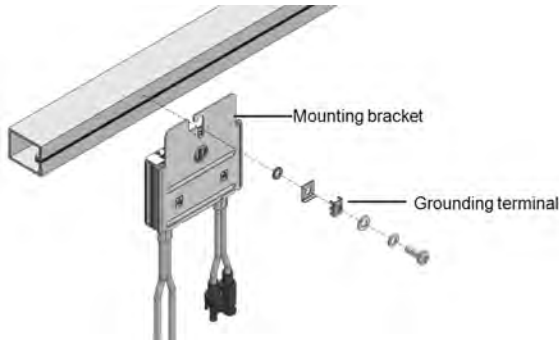

Figure 5: Power optimizer grounding terminal
- **For mounting on un-grounded structures** (such as a wooden structure): If the star washer or the plate cannot be used, use the SolarEdge grounding lug (purchased separately) with an equipment-grounding conductor according to the supplied instructions. The grounding terminal accepts a wire size of 6-14 AWG, and must be sized for equipment grounding per NEC 250.122 requirements. Tighten the screws connecting the power optimizer to the frame and the grounding terminal screw. Apply torque of 9.5 N\*m / 7 lb\*ft. See *Figure 5*.